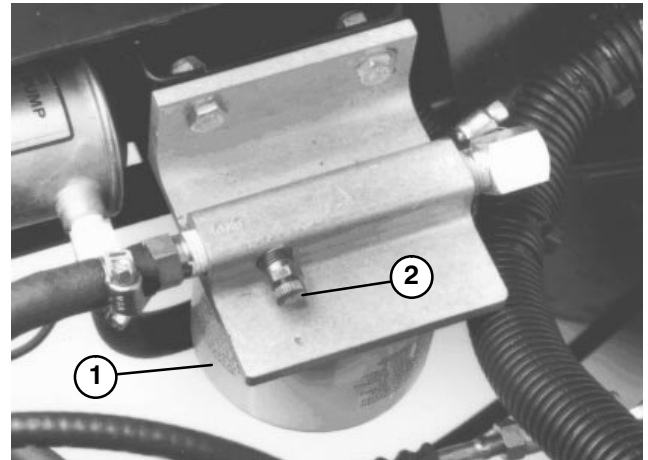

Figure 20
1. Loosen air bleed screw on top of fuel filter/water separator (Fig. 20).